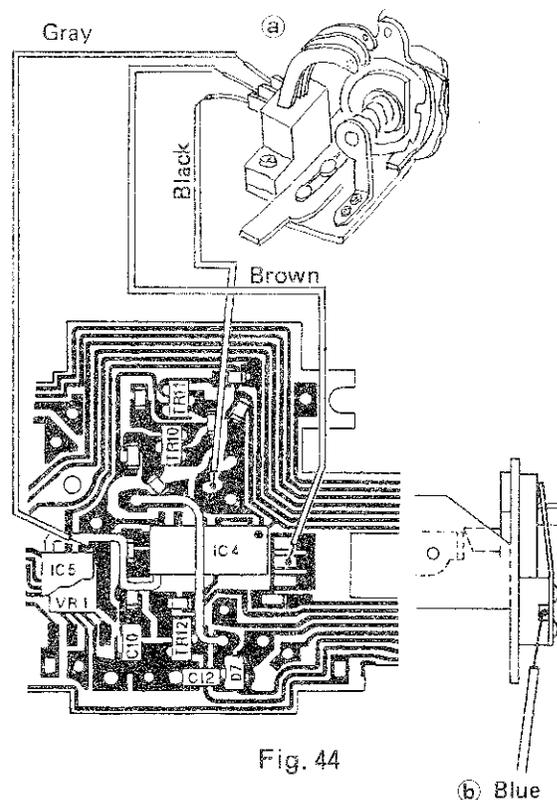

Fig. 44
- Ⓐ: Disconnect 3 lead wires (black, brown and gray 1 ea.) from FPC plate (Fig. 44)
- Ⓑ: Disconnect one blue lead wire from SR base plate (Fig. 44)
4. Then, remove ④ and take out SR base plate.